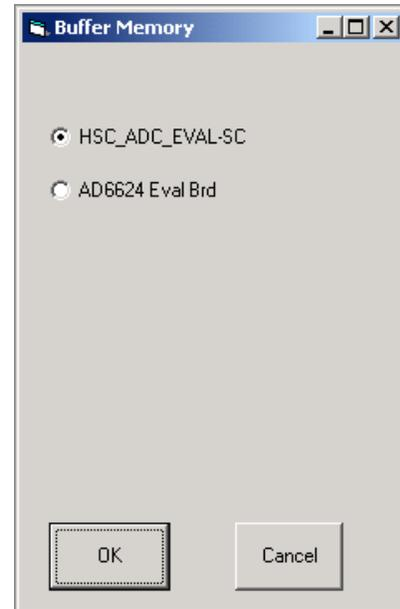

Figure 5. Buffer Memory
- Next, choose Config>Buffer. A window similar to Figure 5 will appear.